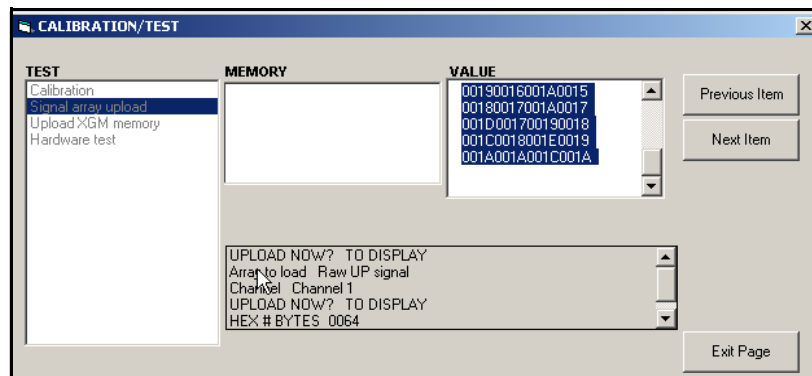

Figure 12: Signal Array Data Displayed on PanaView
- If you double-click on *To Display*, the right pane of the window appears similar to *Figure 12* below, and the data is available for immediate evaluation. Click [Exit Page] to close the window and return to the *Calibration/Test* menu.